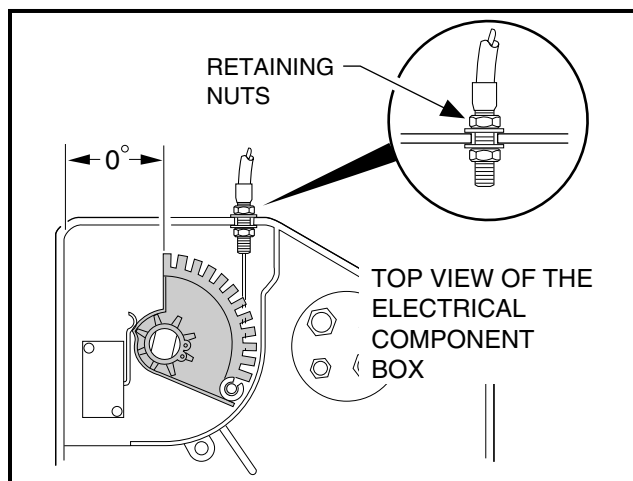
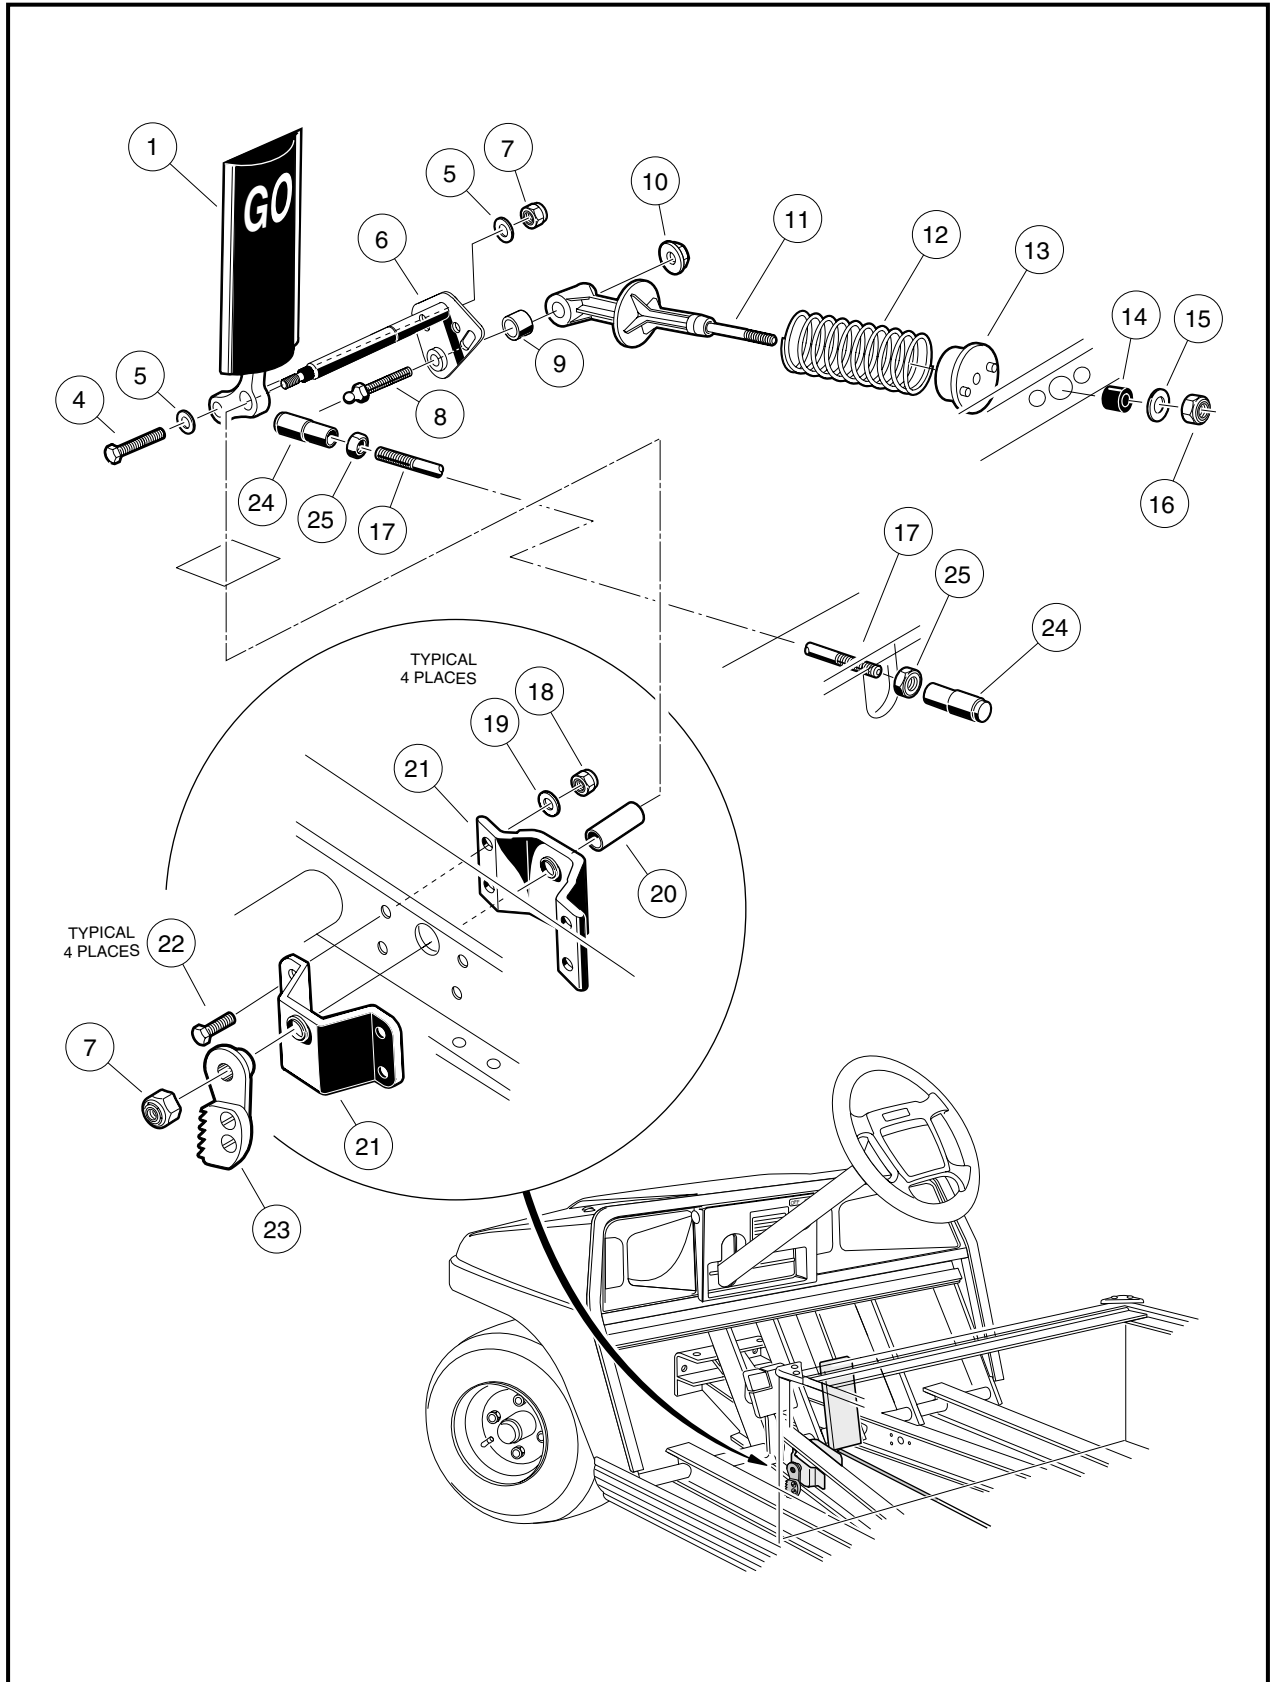

Figure 5-11 Accelerator Cable
Figure 5-14 Accelerator Pedal – Electric Turf 1, Carryall 1 and all Gasoline Vehicles
- 5.2. Loosen the jam nuts (25) and disconnect the accelerator rod (17) at the accelerator pedal. Adjust the length of the rod (**Figure 5-14, Page 5-9**) to obtain an accelerator cable cam position of 0° as shown (**Figure 5-11, Page 5-6**). **See following CAUTION.**
- 5.4. While holding the accelerator rod (17) with locking pliers, loosen jam nut (25) and adjust ball joint sleeve (24) to fit on the wiper switch ball stud, with approximately the same number of threads showing at each end of the rod. Then tighten jam nut (25) against sleeve (**Figure 5-14, Page 5-9**).
3. Using a 1/2" socket and 1/2" wrench, remove the nut (7), two washers (5), and bolt (4) securing the accelerator pedal (1) to the pivot rod (6) (**Figure 5-14, Page 5-9**).
4. Disconnect the accelerator rod assembly (17, 25, and 24) (**Figure 5-14, Page 5-9**) at the front and rear ball studs and remove it from the vehicle.
5. Remove the nut (10), ball stud (8), and pivot support bearing (9) from the accelerator pivot rod assembly (6) (**Figure 5-14, Page 5-9**).
6. Slide the spring retainer (11) off of the accelerator pivot rod.
7. Use a scribe to mark the position of the park brake ratchet (23) on the accelerator pivot rod (6) (**Figure 5-14, Page 5-9**). See following NOTE.
8. Remove the lock nut (7) from the accelerator pivot rod (**Figure 5-14, Page 5-9**).
9. Depress the brake pedal slightly and then slide the park brake ratchet (23) (**Figure 5-14, Page 5-9**) toward the end of the accelerator pivot rod. Rotate the ratchet and remove it from the pivot rod.
10. Remove the four bolts (22), washers (19), and nuts (18) that secure the accelerator pivot rod supports (21) to the frame. Remove the pivot rod (6) and spacer (20) from the accelerator pivot rod supports (21) (**Figure 5-14, Page 5-9**).
11. Remove the accelerator pedal (1) from the vehicle (**Figure 5-14, Page 5-9**).